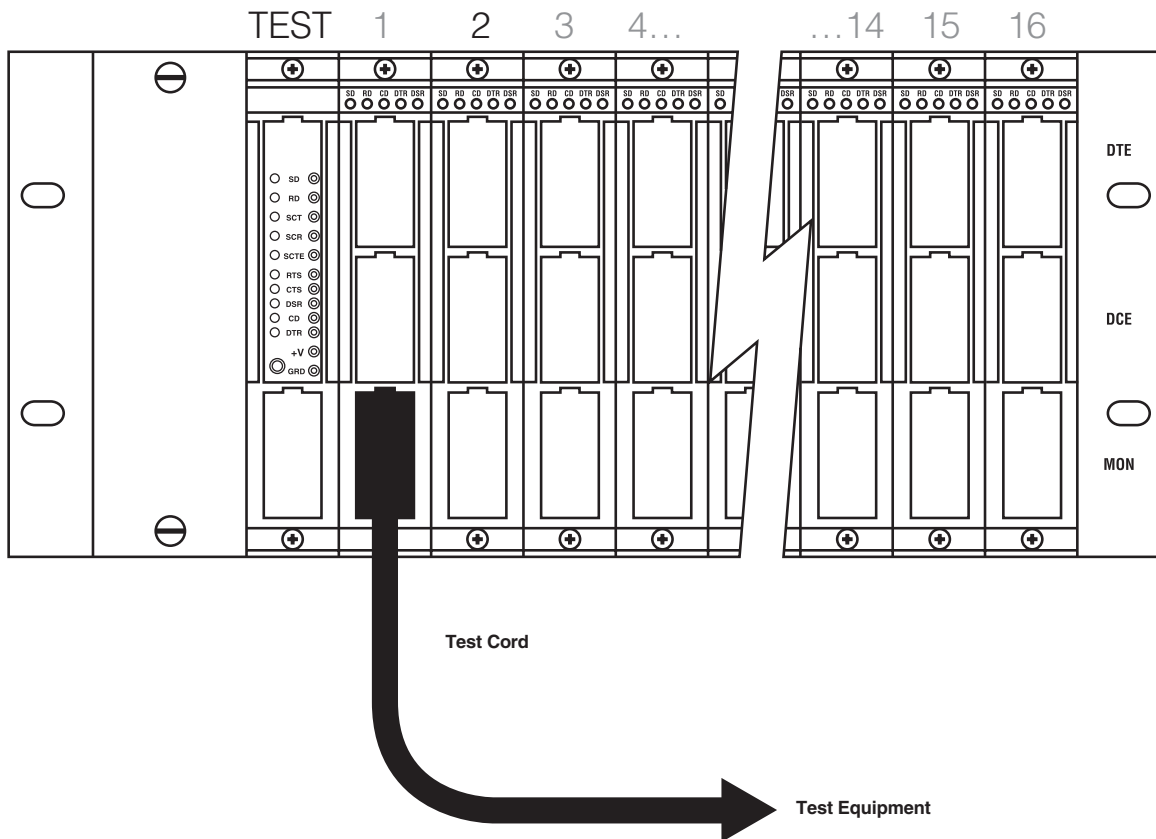

Figure 4-3. Test patch-cord connection.
2. Connect the opposite end of the same test patch cord to the external test equipment (see Figure 4-3).